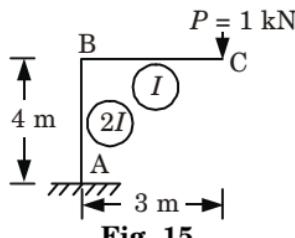

Fig. 15.
- d. Determine the vertical deflection at point  $C$  in the frame shown in Fig. 15. Given  $E = 200 \text{ kN/mm}^2$  and  $I = 30 \times 10^6 \text{ mm}^4$ .